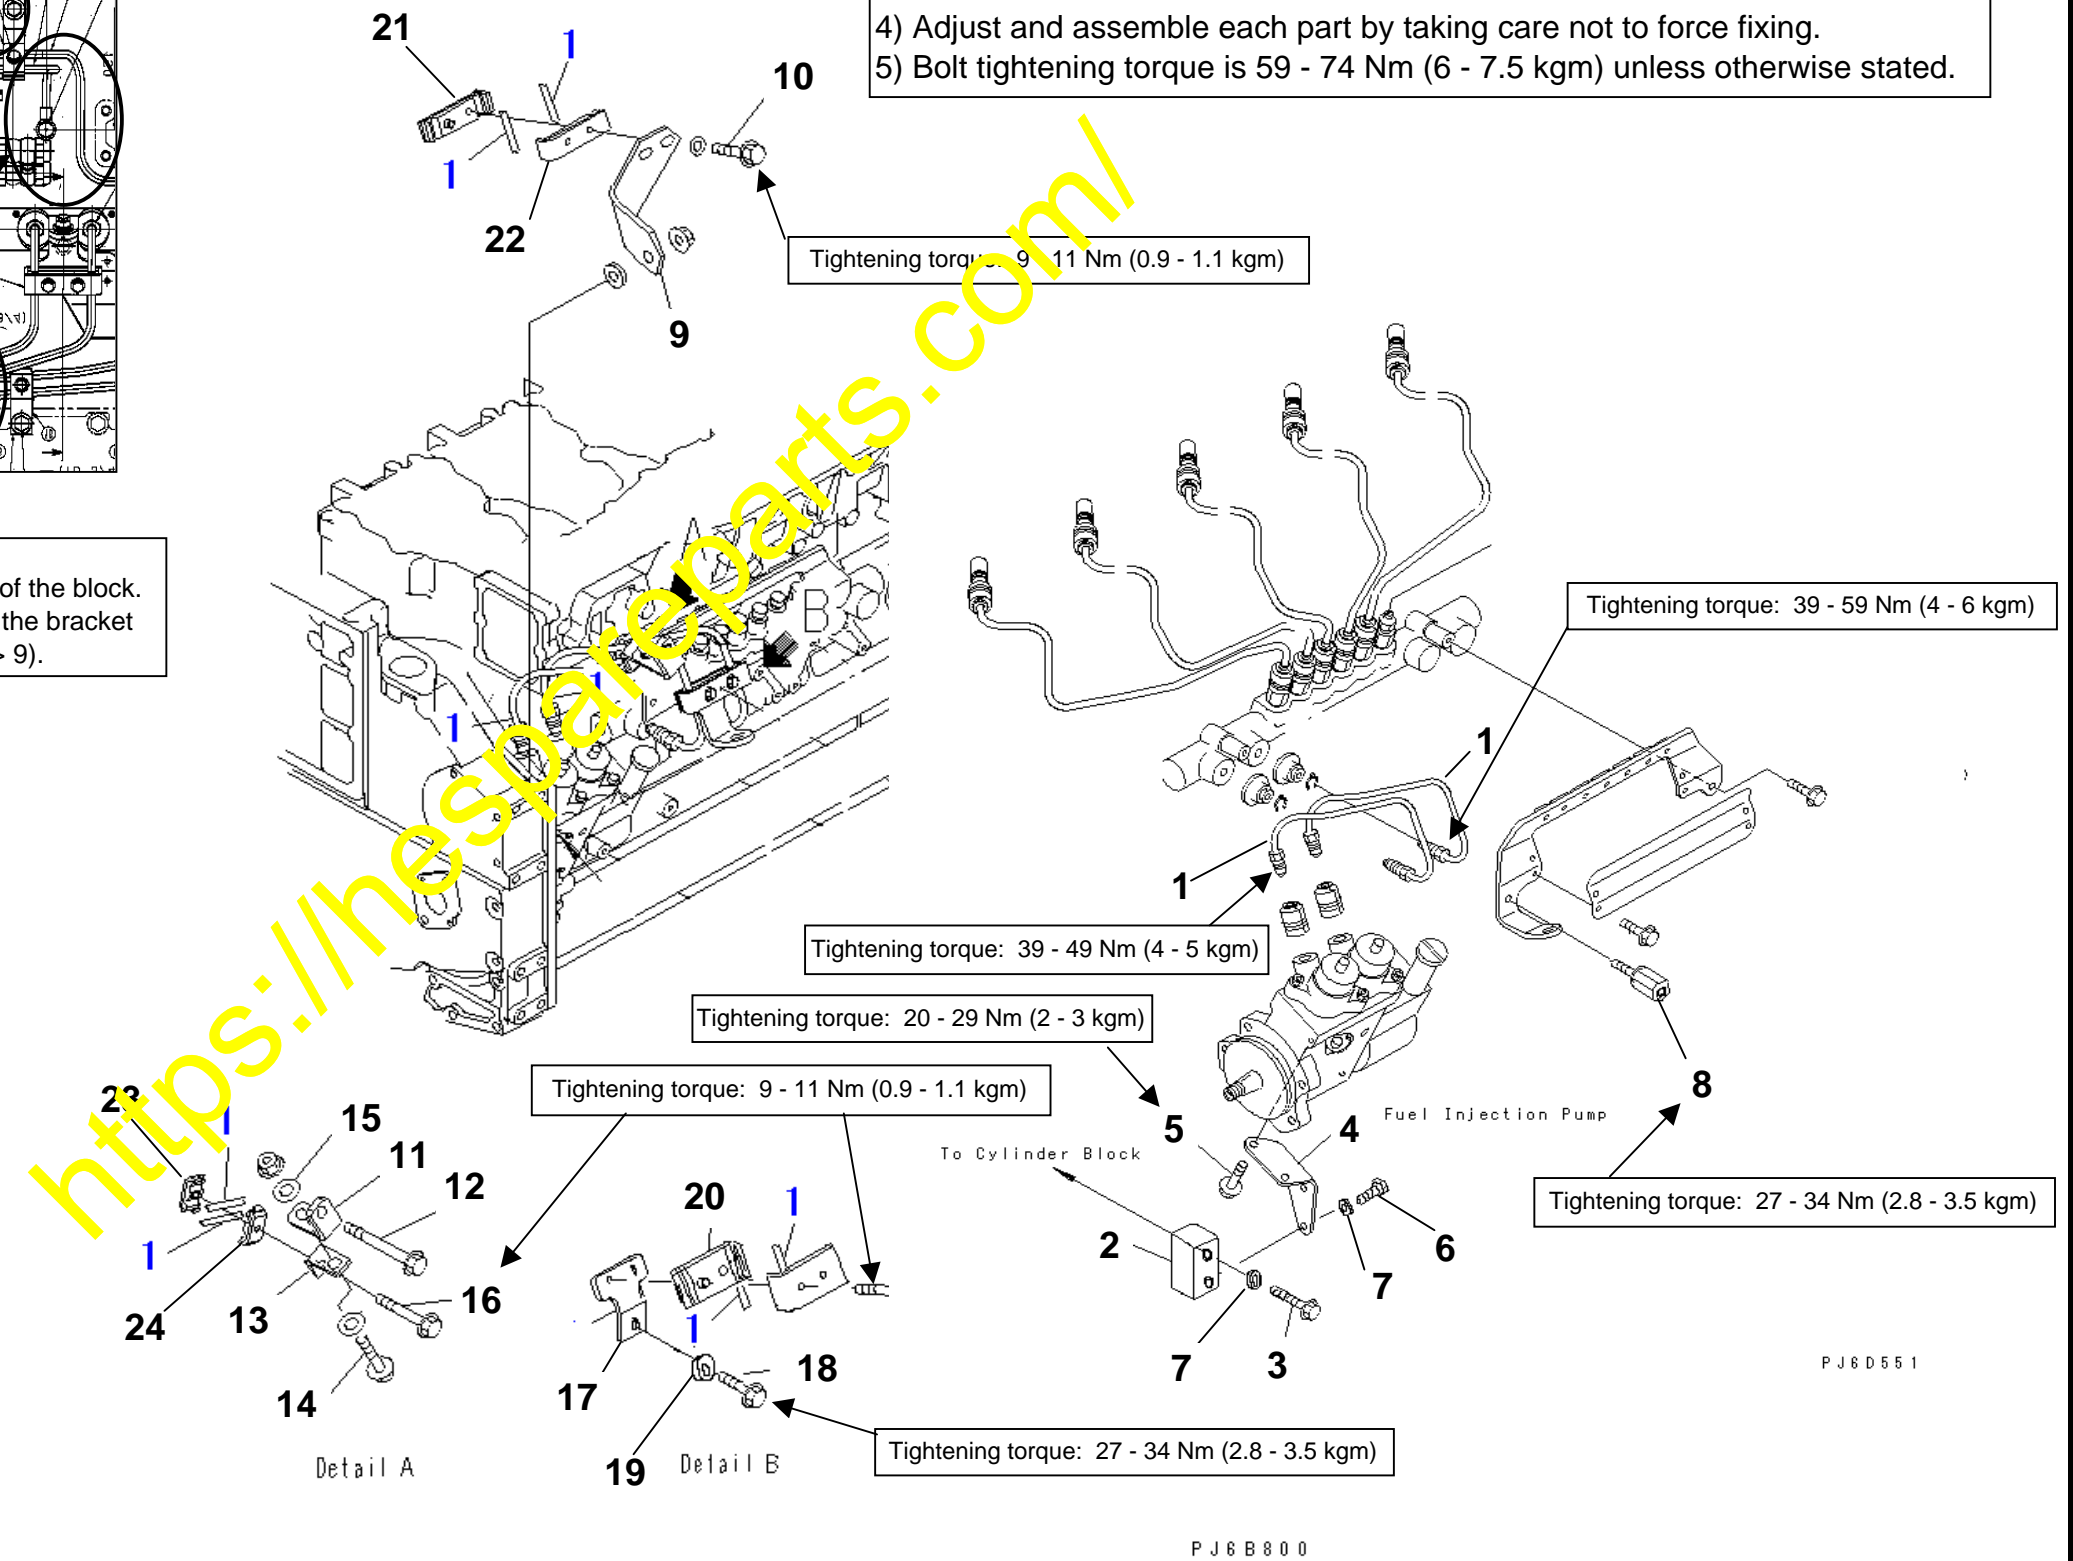

Fig. 2
- 1) Replace with the modified parts in accordance with Fig. 2.